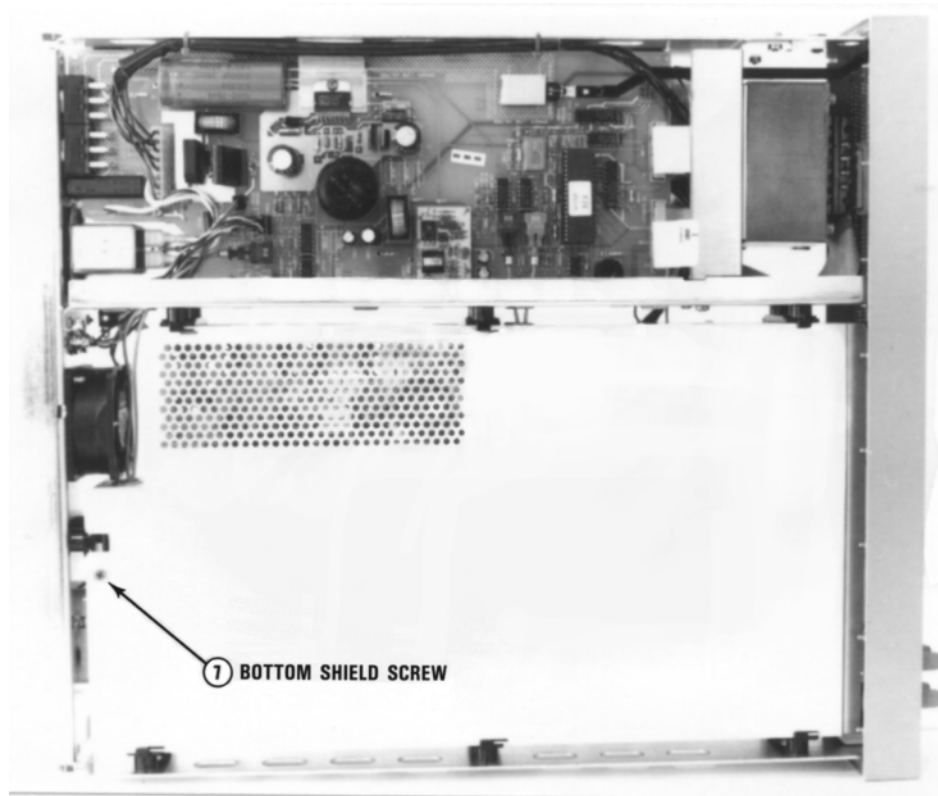

Figure C-5 3458A inside bottom view
- 1** Refer to Figure C-5. Use the #TX 10 Torx driver to remove the bottom shield screw. Then remove the shield. Pull the shield toward the rear of the instrument until the shield retainers line up with the slots in the shield. Lift the shield off.
- 3** Refer to Figure C-5. Replace the bottom shield. Line up the slots on the shield with the shield retainers. Then push the shield toward the front of the instrument until the shield screw hole lines up with the screw hole in the chassis. Use the #TX 10 Torx driver to reinstall the shield screw.